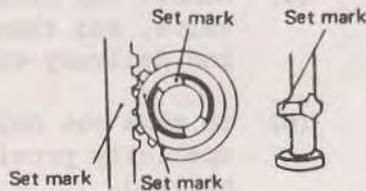

Fig. 21
(2) Plunger and plunger barrel of fuel injection valve are so precisely machined that special care must be paid to handle them. Whenever plunger is replaced with a new one, it must be replaced together with the plunger barrel.
(3) Reassembling is carried out in the severe order of disassembling, taking care to match the set marks correctly.
- (a) Plunger is inserted into fuel control ring by matching O-marks put on both, as shown in Fig. 21.
- (b) Adjusting lever is matched with fuel control ring at the marks put on both, as shown in Fig. 21.